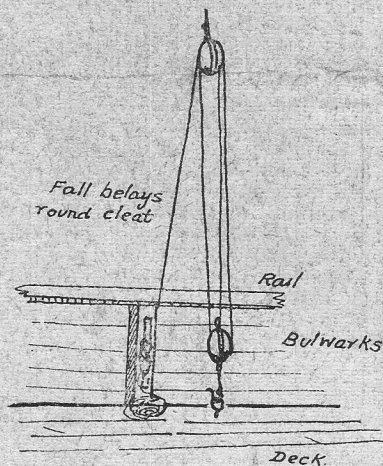
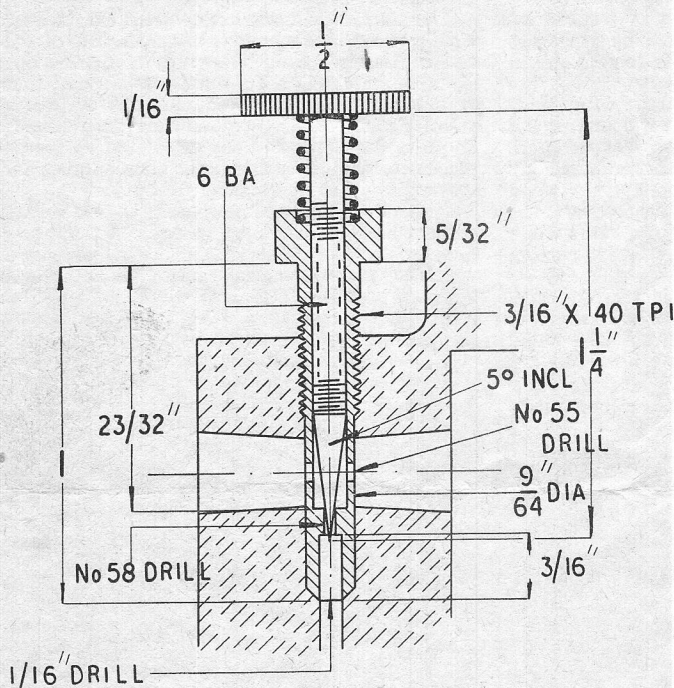
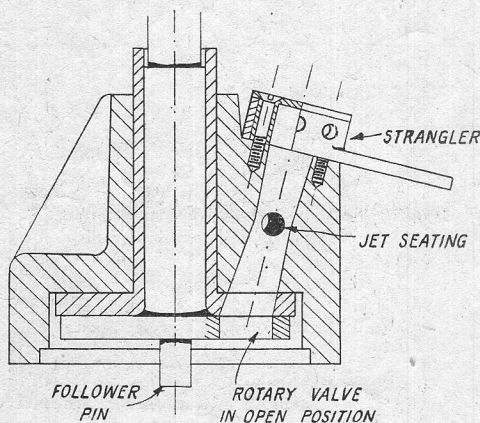

Fig. 7
Fig. 1
Fig. 2
**Lower Lug Yards.** A rope strop, with eye, was secured round the lower yards about one-third from the fore end, and kept from sliding by two wooden stops nailed to yard. On either side of the stops single blocks were seized to pendants round yard. The traveller and hook can be made of fine wire (Fig. 1) and tye fastened to a shackle through eye of hook; this leads up fore side of mast through a dumb sheave about 18 in. below lower cap and has a luff purchase on end. The single block hooked in deck and fall belayed round cleat aft of purchase (Fig. 7). This
Query No. 1 concerned the jet and needle valve, and requested a dimensioned sketch, showing how this assembly is made up. The sketch is reproduced herewith (Fig. 1). It shows a section of that portion of the crankcase which forms the carburettor body. If this drawing is read in with the original section in plan (Fig. 2), the layout will, I think, be quite clear.
**Tack 33** went to foot of mast; when this was hauled down and the halyards and sheet slackened off the sail could be kept under control and brought into the boat. Some luggers set the mizen topsail similar to those on main and fore. Bowlines were sometimes set on all topsails, lead as shown in Fig. 2.